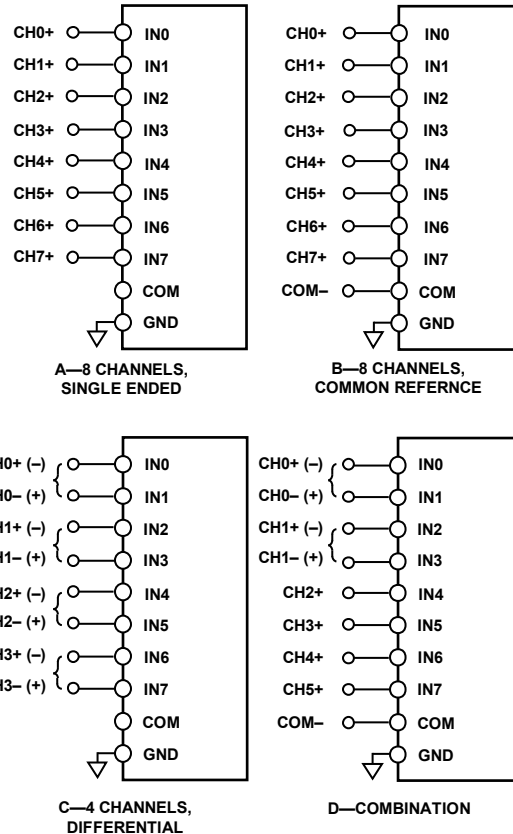

Figure 32. Multiplexed Analog Input Configurations
Figure 32 shows the different methods for configuring the analog inputs with the configuration register, CFG[12:10]. Refer to the Configuration Register, CFG, section for more details.
- Figure 32 (A), single-ended referenced to system ground; CFG[12:10] = 111₂. In this configuration, all inputs (IN[7:0]) have a range of GND to V_{REF} .
- Figure 32 (B), bipolar differential with a common reference point; COM = $V_{REF}/2$; CFG[12:10] = 010₂. Unipolar differential with COM connected to a ground sense; CFG[12:10] = 110₂. In this configuration, all inputs IN[7:0] have a range of GND to V_{REF} .
- Figure 32 (C), bipolar differential pairs with the negative input channel referenced to $V_{REF}/2$; CFG[12:10] = 00X₂. Unipolar differential pairs with the negative input channel referenced to a ground sense; CFG[12:10] = 10X₂. In these configurations, the positive input channels have the range of GND to V_{REF} . The negative input channels are a sense referred to $V_{REF}/2$ for bipolar pairs, or GND for unipolar pairs. The positive channel is configured with CFG[9:7]. If CFG[9:7] is even, then IN0, IN2, IN4, and IN6 are used. If CFG[9:7] is odd, then IN1, IN3, IN5, and IN7 are used, as indicated by the channels with parentheses in Figure 32 (C). For example, for IN0/IN1 pairs with the positive channel on IN0, CFG[9:7] = 000₂. For IN4/IN5 pairs with the positive channel on IN5, CFG[9:7] = 101₂. Note that for the sequencer, detailed in the Channel Sequencer section, the positive channels are always IN0, IN2, IN4, and IN6.
- Figure 32 (D), inputs configured in any of the preceding combinations (showing that the AD7682/AD7689 can be configured dynamically).